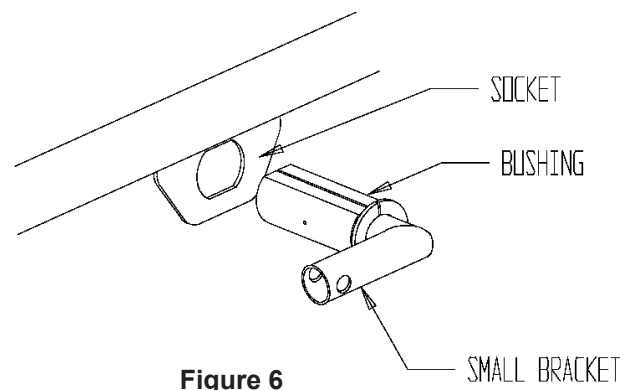
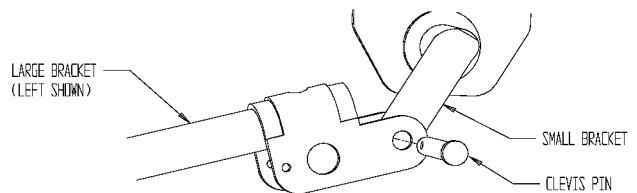

Figure 6
Figure 7
3. Insert small bracket into the socket near the foot end of the bed by aligning the flat surfaces of the bushing with the flat sides of the socket (Figure 6). The bracket will turn freely when fully inserted. Once inserted turn both the large and the small brackets so the 3/8" clevis pin can be inserted to join the two brackets. Install the hair pin cotter to retain the clevis pin (Figure 7).